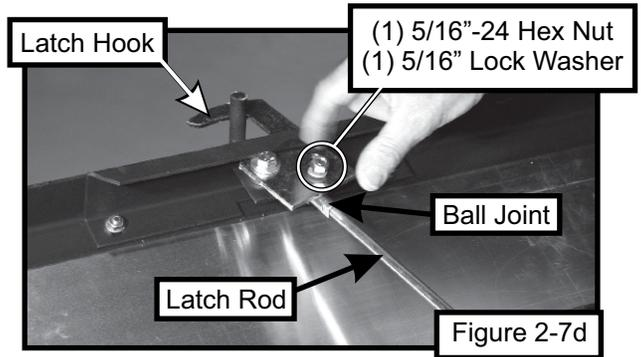

Figure 2-7d
Fasten the ball joint P#(K1442) to the end of the latch rod P#(A0620). Tighten the ball joint to approximately half way down the threads on the latch rod. Attach the ball joint to the latch hook as shown in Figure 2-7d, using (1) 5/16"-24 hex nut P#(K1444) and (1) 5/16" lock washer P#(K0043).